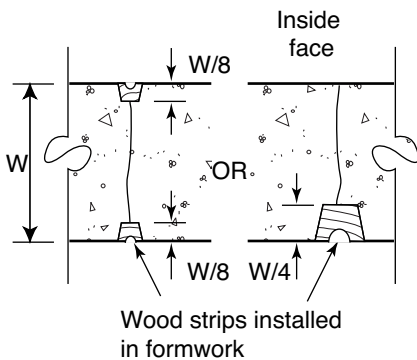

FIGURE 9
- ◆ To be effective, control joints must reduce the thickness of the wall by 25 percent. Attach bevelled wood strips to formwork or saw-cut immediately after forms are removed (see Figure 9).